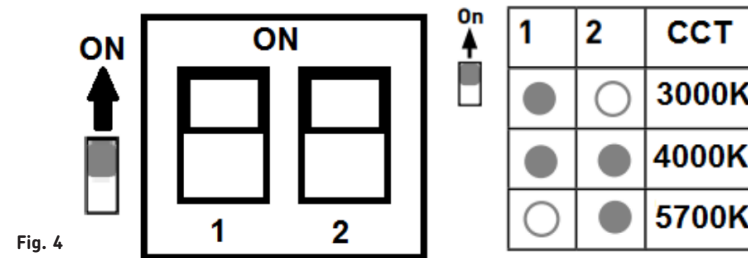

Fig. 4
- Select the required colour temperature via the DIP switch (see Fig. 4)